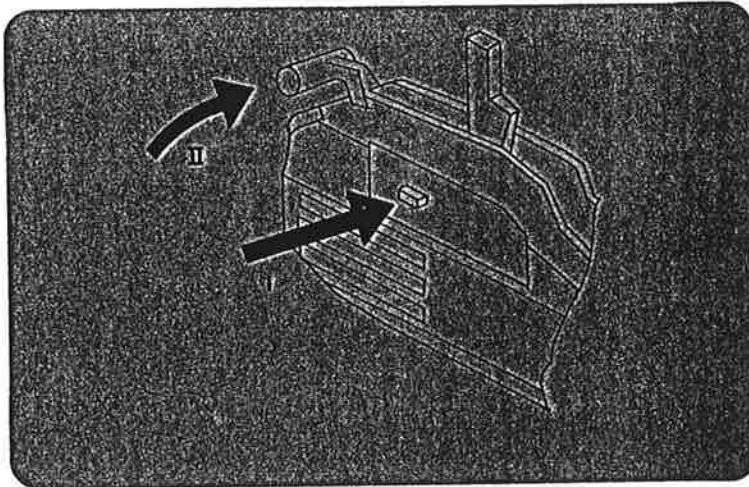

Fig. 3
4.3. - Fig. 3 : releasing the jaws
The TU32P is fitted with a « two hands » rope release system which requires deliberate operation by the user to release the wire rope from the hoist (see chapter 4 - Fig. 3 and 6).